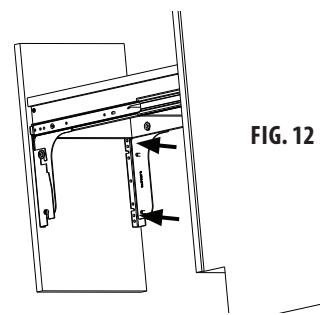

FIG. 12
17. Gently pull the door open and install (4) #6 x 1/2" screws (2 per side) through holes in brackets into door. (see fig. 12)